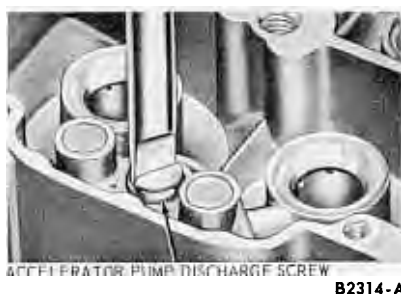

FIG. 21—Booster Venturi Removal or Installation
4. Remove the air distribution plate (if so equipped) primary stage booster venturi assembly and gasket (Fig. 21). Invert the main body and let the accelerating pump discharge weight and ball fall into the hand.
17. Drop the accelerating pump discharge ball into its passage in the primary side of the main body. Seat the ball with a brass drift and a light hammer. Make sure the ball is free. Drop the accelerating pump discharge weight on top of the ball. Position the primary booster venturi assembly and gasket in the main body. Install the air distribution plate (if so equipped) and retaining screw. Tighten the retaining screw securely (Fig. 21). The primary booster screw is hollow.